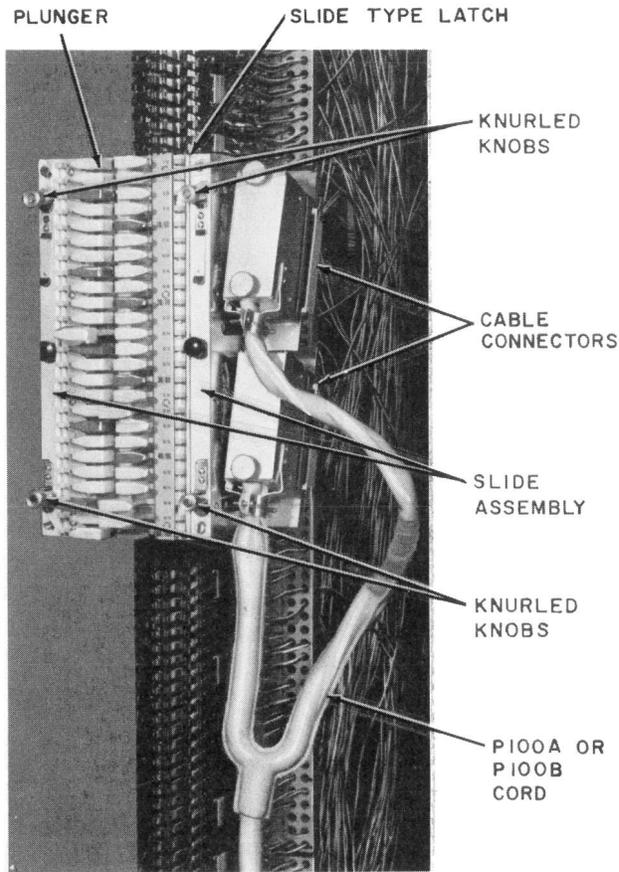
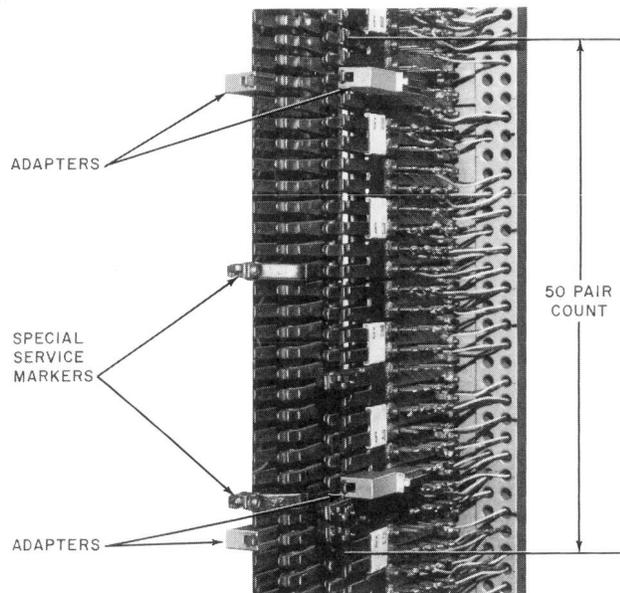

Fig. 3—F Test Connector on 444-Type Jack
Fig. 7—Adapters Placed on 444-Type Jack
(1) The left and right slide assemblies (Fig. 3) should be in the *down* position when the plungers are released to contact the cable pairs.
(2) The left and right slide assemblies (Fig. 3) should be in the *up* position when the central office equipment is to be removed from any pair.
3.21 Pull the 50 plungers out to the *latched* position. Place four adapters on jacks, in the 50-pair count to be tested as near to the upper and lower extremes of the 50-pair count as special service markers permit. (Fig. 7). *The adapters (Fig. 7) used to place the F test connector should be marked with an X on the side.* Place and lock the F test connector on the adapters by rotating the four knurled knobs so the locking plate positioning dots are aligned with the dots on the chassis. Release the latches on the plungers to make contact with the springs of the 444-type jacks. The left and right slide assemblies (Fig. 3) should be in the *down* position when the plungers are released to contact the cable pairs. The left and right slide assemblies should be in the *up* position when the central office equipment is to be removed from any pair. Special service markers prevent contact with the springs associated with special service pairs.